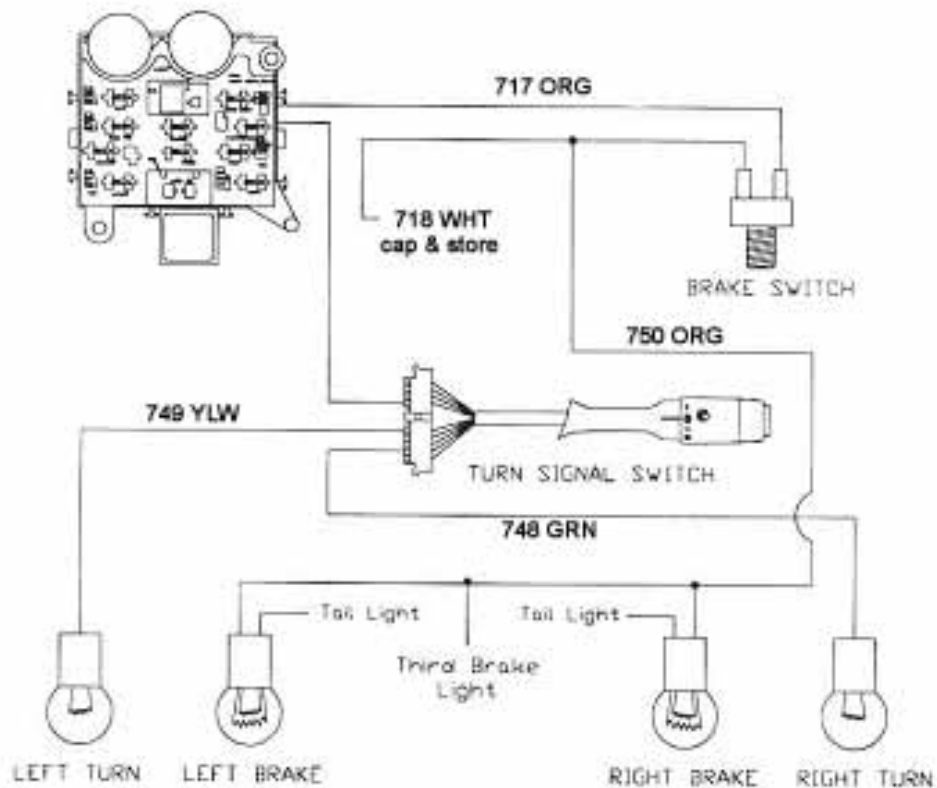

Figure 9-9 Integrated Brake Lights & Separate Turn/Brake Lights
- 9.9.2 These 4 wires will be connected according to one of the diagrams shown in **Figure 9-9**. Which diagram you will use depends on whether or not you have one bulb on each side of the vehicle that is for the brake/tail **and** Turn Signal Lights (this is referred to as integrated lights) **or** you have **more than one** bulb on each side **and** the Brake and Turn Signal Lights are hooked to different bulbs (referred to as separate Brake/Turn Lights).